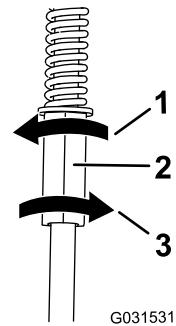

Figure 58
4. Rotate the left control rod in quarter-turn increments until the machine tracks straight (Figure 58).